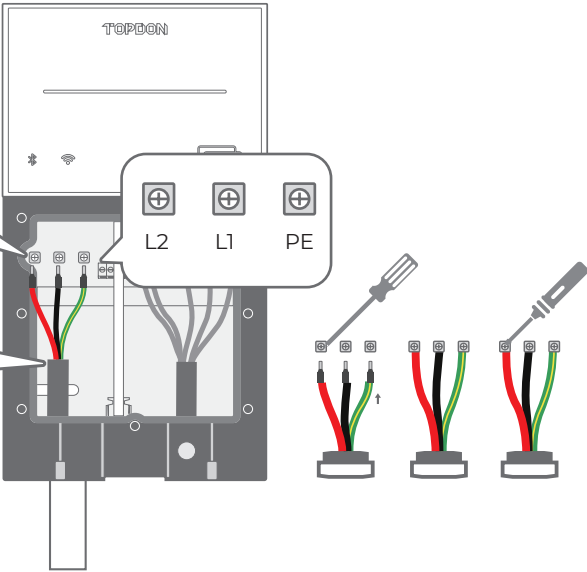

Fig. 4-15
6. Loosen the five terminal screws with a Phillips screwdriver and fully insert each wire connector into its correct terminal block. Use a torque screwdriver to tighten the terminal screws with a torque of 0.5N.m. (See Fig. 4-15)